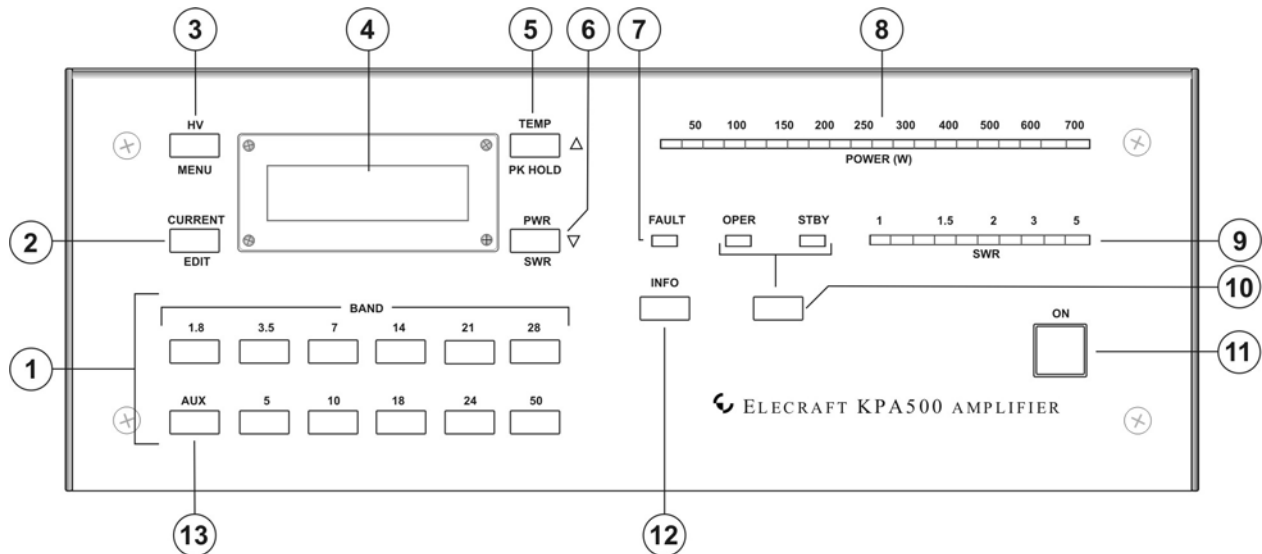

Figure 2. KPA500 Front Panel.
- Position the rear-panel power switch {3} to On (I).
- Tap the front panel **ON** switch ({11} on Figure 2). The LCD should light.
- Tap the **HV** switch ({3} on Figure 2) and note the voltage displayed on the LCD. It must be between 65 and 85 volts. If it is outside of this range, immediately tap the **ON** switch to turn the KPA500 off, wait until the fan stops completely, and then position the rear panel power switch to off (O). The fan runs to discharge the power supply to a safe level. Do not disconnect mains power or position the rear panel rocker switch to off until the fan stops.
NOTE: If the red FAULT LED ({7} on Figure 2) lights when you tap the **ON** switch, that indicates the power supply voltage is above the upper limit. Use a power transformer tap lower on the above table and retry the test.